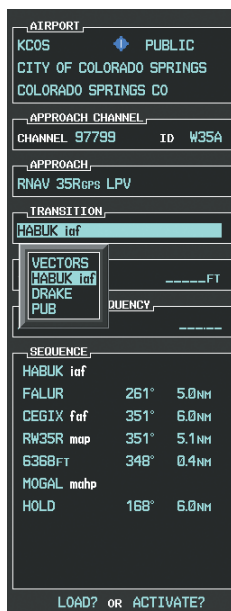

Figure 5-127 List of Available Transitions
e) Press the **ENT** Key. A list of available transitions for the selected approach is displayed as in Figure 5-127.